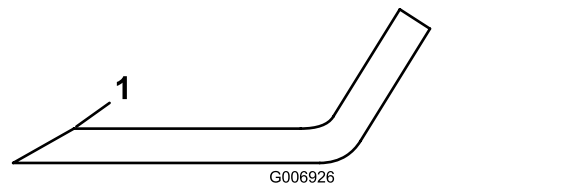

Figure 69
4. Inspect the cutting edges of all the blades. Sharpen the cutting edges if they are dull or nicked, sharpen only the top of the cutting edge, and maintain the original cutting angle to ensure sharpness (Figure 69).